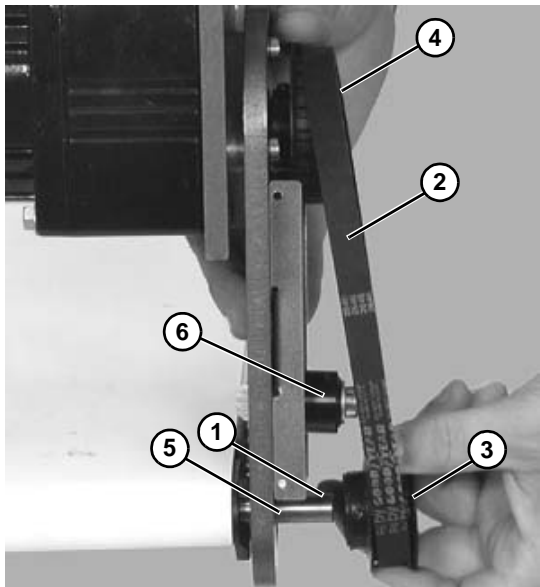
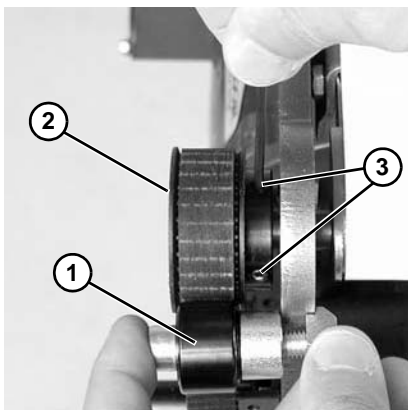

Figure 12
Figure 13
6. Install key (Figure 12, item 1).
7. Wrap timing belt (Figure 12, item 2) around driven pulley (Figure 12, item 3) and drive pulley (Figure 12, item 4). Install driven pulley onto conveyor shaft (Figure 12, item 5).
8. Remove cam bearing and spacer (Figure 12, item 6). Place the cam bearing and spacer (Figure 13, item 1) next to the driven pulley (Figure 13, item 2). Ensure the flanges of the driven pulley are aligned with the cam bearing. Tighten driven pulley set screws (Figure 13, item 3). This will allow for proper belt alignment while conveyor is in use. Install cam bearing and spacer (Figure 13, item 1).